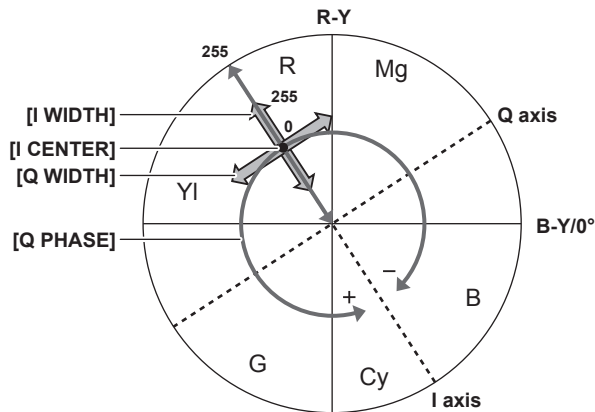

Fig. 1
- The color composition of video signal (R/G/B) can be converted to color difference signal (R-Y/B-Y) as in (Fig. 1). Within those ranges, set the area on which the following skin tone is applied, using the axis across red and cyan (I axis) and the axis across green and magenta (Q axis).